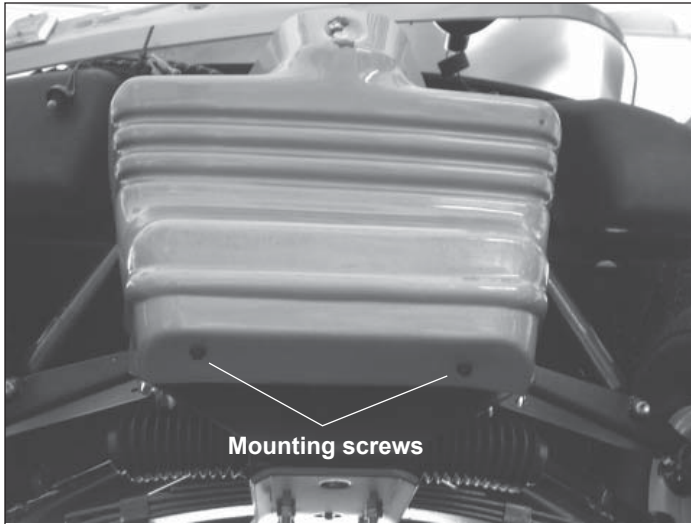

Figure 8-3. Front Bumper Bottom Mounting Screws
1. Remove the two screws securing the bottom of the bumper to the frame (Figure 8-3).